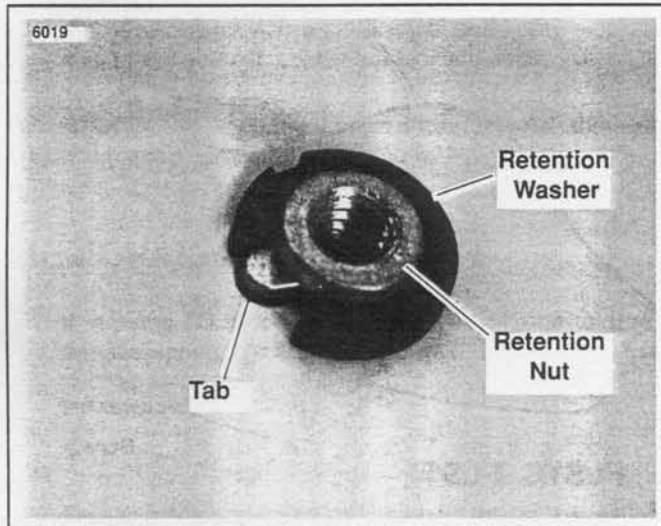

Figure 2-102. Seat Retention Nut and Washer
2. See Figure 2-102. With tab on retention nut seated in notch of fender hole, pull up on cable strap to hold nut snug against underside of rear fender. From the side opposite the tab, slide on the retention washer to lock the position of the retention nut.